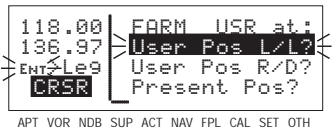

Figure 5-24
4. Move the cursor down to the second line, over **User Pos L/L?** (figure 5-24).